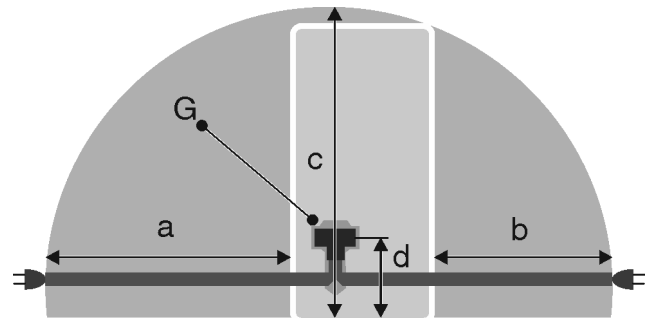

Fig. 30 *
- The socket is not located behind the appliance but in areas a or b Fig. 30 (a, b, c).
- ▶ Insert the appliance plug Fig. 30 (G) on the rear side of the appliance. Ensure that they latch into place correctly.